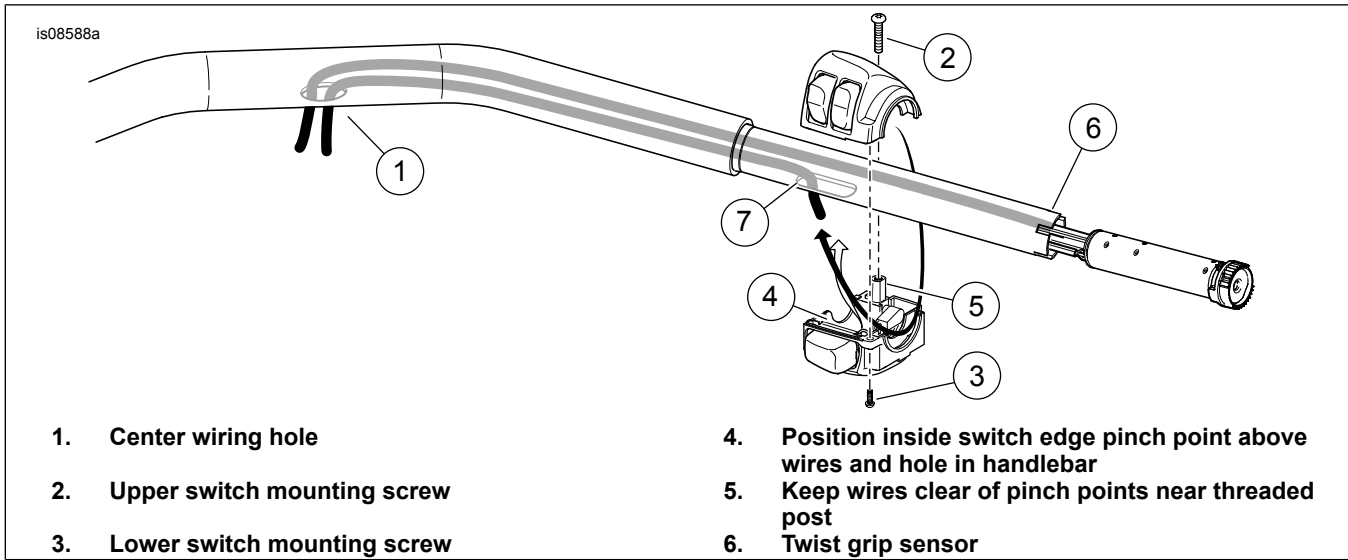

Figure 1. Switch Housing and Twist Grip Sensor Wire Routing (2016 and Later Softail)
2. See Figure 1. Feed the twist grip sensor wire bundle into the right-side handlebar end and toward the large opening in the center of the bar, while fitting the index tabs on the twist grip sensor into the slots on the end of the handlebar. Different-sized tabs and slots prevent improper assembly.